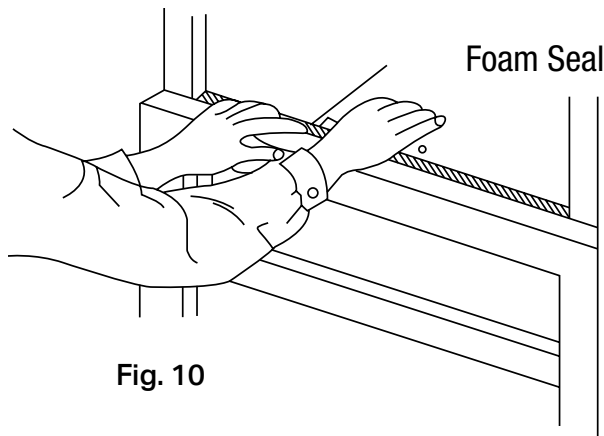

Fig. 10
D. Cut window sash seal foam and insert it in the space between the upper and lower sashes Fig. 10.